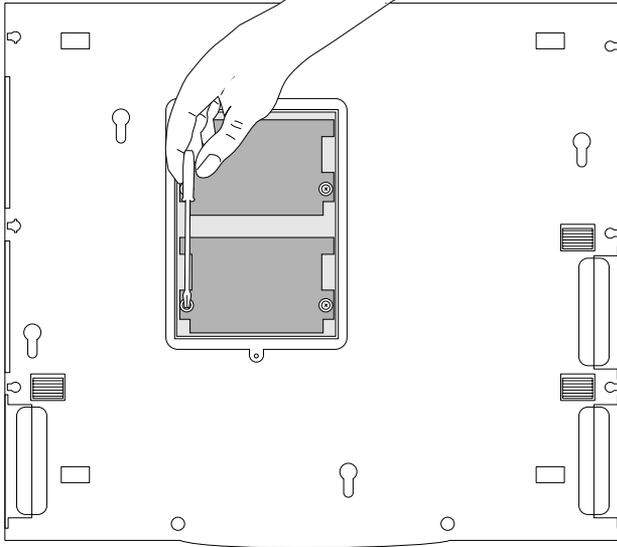

Figure 3-10 Installing the Memory Module
6. Insert the new module in the available slot (as shown in Figure 3-10) pressing gently but firmly until it is fully seated in the connector.